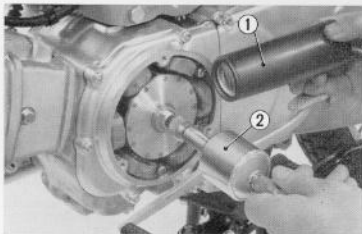

Fig. 5.8 Adjusting the ignition timing advance
When using a strobo timing light ① to check the timing, idle the engine at 1,200 r.p.m. (Fig. 5.8) If it is found out of timing, perform the adjustment in the same manner as described above.